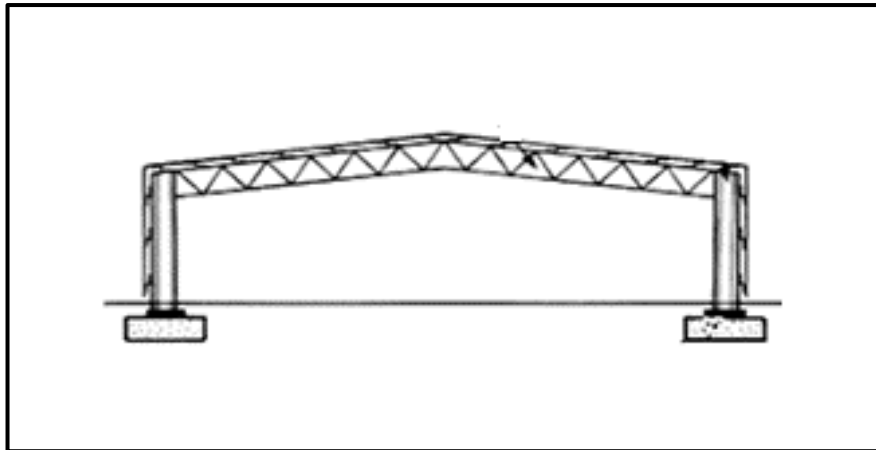

FIGURE 4.4
4.4 Identify the girder shown in FIGURE 4.4 below.